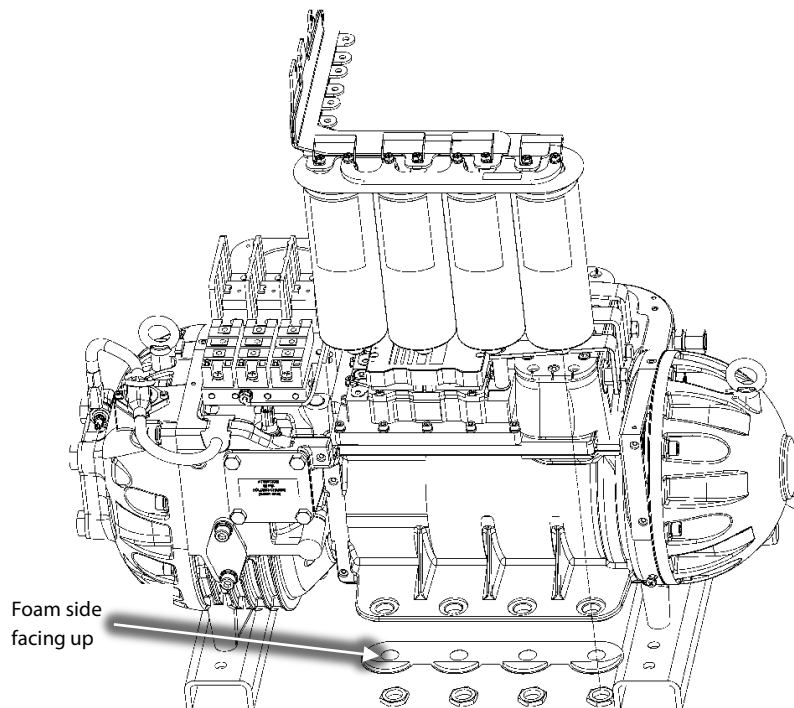

Figure 11 – Capacitor Assembly Removal
- Carefully lift the DC Bus Bars and capacitors out as an assembly. Do not remove the bleed resistors or capacitors from the bus bars. Refer to Figure 11 (Capacitor Assembly Removal) (TT300 Shown).